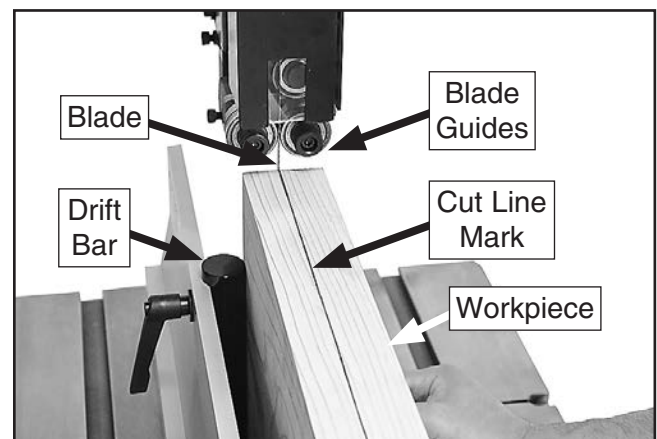

Figure 86. Resawing with drift bar.
10. Slowly feed workpiece completely through blade. Use drift bar as a pivot point to control cut, as shown in **Figure 86**.